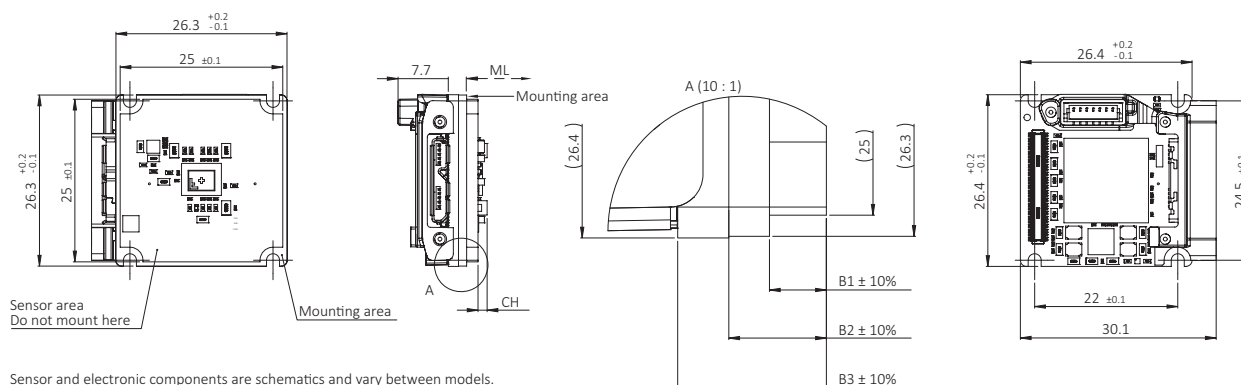

Figure 37: Bare Board 90° dimensions
Dimensions that are common between different models are shown in Figure 37, model specific dimensions are listed in Table 65. **Mechanical length** (ML) defines the mechanical distance from the mounting area to the lens mount front flange, without optical filter. **Components height** (CH) relates to the electronic components with maximum height, in some cases the sensor.